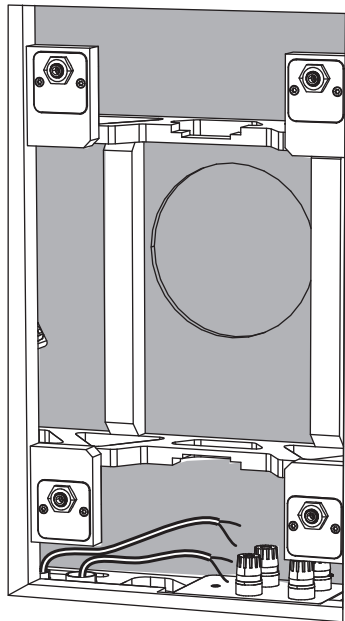

Fig. 7. Drywall Removed from the Aperture
4. After the drywall installation, carefully cut out the hole in the drywall with a suitable handtool, using the aperture in the back can as a guide (Fig. 7). Be careful not to cut inside the back can aperture, or cut the speaker wires. Make sure the drywall aperture is no larger than the aperture of the back can. Remove any dust or debris from within the back can.